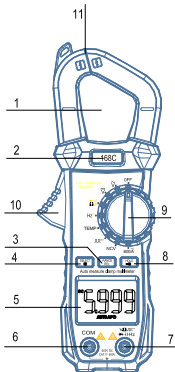

figure 1
1. Turn the range switch to the corresponding " 600A gear position, trigger the SELECT button to select the AC current automatic measurement (the default value is DC current), and the internal can be switched to the corresponding range according to the measured value (internal auto range 6A/60A/600A). As shown in Figure 1, press the handle 10, according to the size of the measuring wire diameter, slowly open the jaw opening, the measured current line vertically through the center of the clamp, the measured current value and the current of the red test pen point The polarity will be displayed on the screen at the same time. The clamp can only measure one conductor at a time. If two or more conductors are measured at the